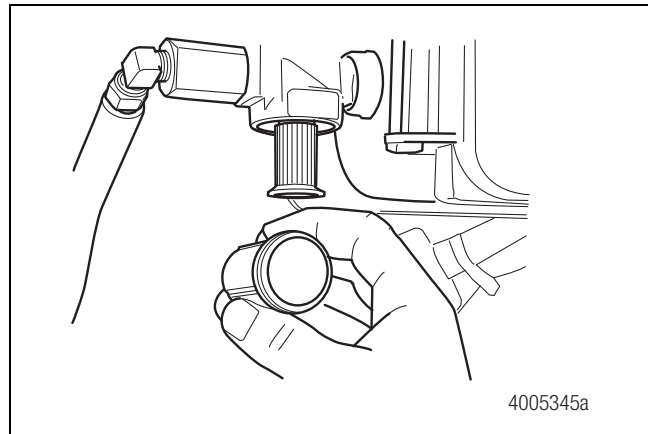

Figure 5.1
- Particulate filter. Figure 5.1.